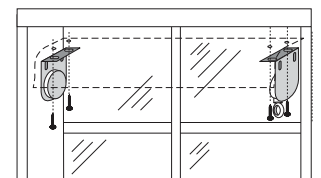

Fig. 5
- Mark the holes where you are going to put your four screws (fig. 5).
- Install the Crank Bracket and Idle End Bracket through the holes in the Valance (fig. 5).